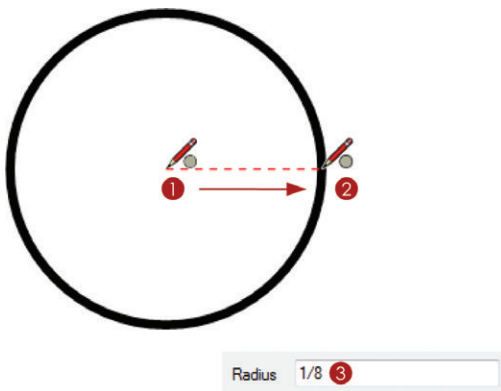

Figure 13.11 Create a precise circle for the door tag.
1. Activate the Circle tool, set the stroke width to .5, and turn off the Fill. Click once to define the center point of the circle (Figure 13.11).